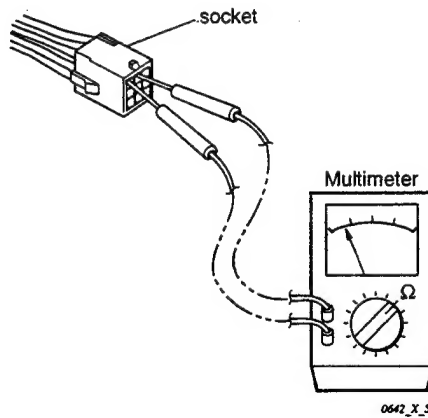

Fig. 10
(2) Checking the Protective Devices
- Then check continuity among plug's (and/or socket's) terminal as in Fig. 10.